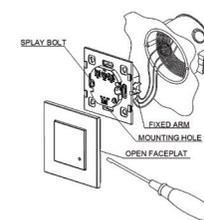

Figure 2
- Detect – S can be installed in circular or square sockets. For round sockets put it and spray bolt on both sides (Figure 2). For square sockets fix the screws through the mounting hole. (figure 3).